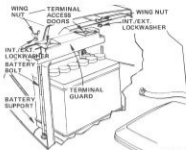

FIGURE 6
- Using the forward square hole on one side of the Battery Support (Fig. 5) insert one Battery Bolt, head of Bolt down. Fasten the Battery Bolt to the Terminal Guard using Int./Ext. Lockwasher and Wing Nut as shown in Fig. 6.
- Assemble the remaining Battery Bolt to other side of Battery Support and fasten Terminal Guard to it with remaining Int./Ext. Lockwasher and Wing Nut. Tighten Wing Nuts securely by hand (Fig. 6).
NOTE: USE TERMINAL ACCESS DOORS (FIG. 6) FOR: